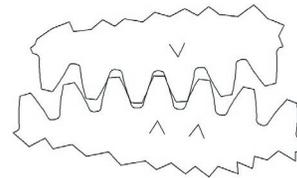

FIGURE 9
10.Apply a liberal coating of anti-seize or lubricating compound on the area of the shaft underneath the timing gear. Insert the keys into the shaft keyways. Install the timing gears, positioned with arrows meshed as shown in Figure 9. Rotate the driver shaft by hand, to be sure the timing gears are properly aligned. If not, check the arrows again.